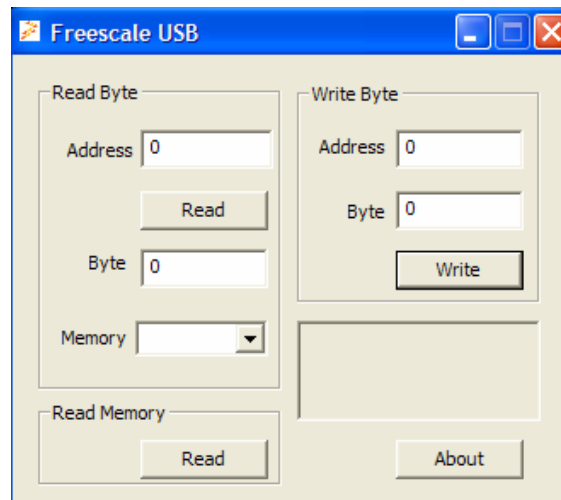

Figure 1. GUI Main Window
Figure 1 shows the graphical user interface (GUI) included with this application note. The ColdFire example software performs the following actions:
2. Read and write 8-bit IIC and SPI memories as individual bytes (Figure 1) or entire memory device content (Figure 2).